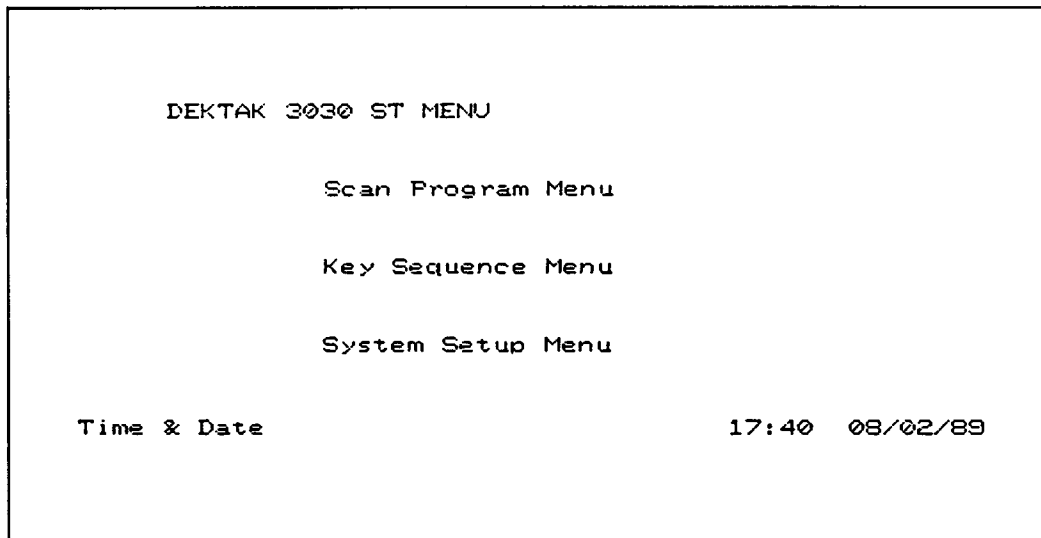

Figure 4-2. Main Menu
3. Press **PRGM**. The DEKTAK 3030ST Main Menu will appear (see Figure 4-2).